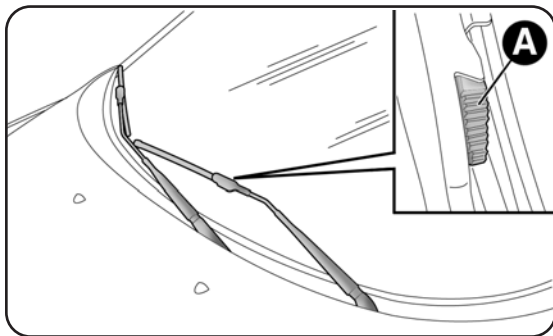

fig. 5
- press tabs (one on each side) A-fig. 5 on the attachment clip and remove the blade from the arm;